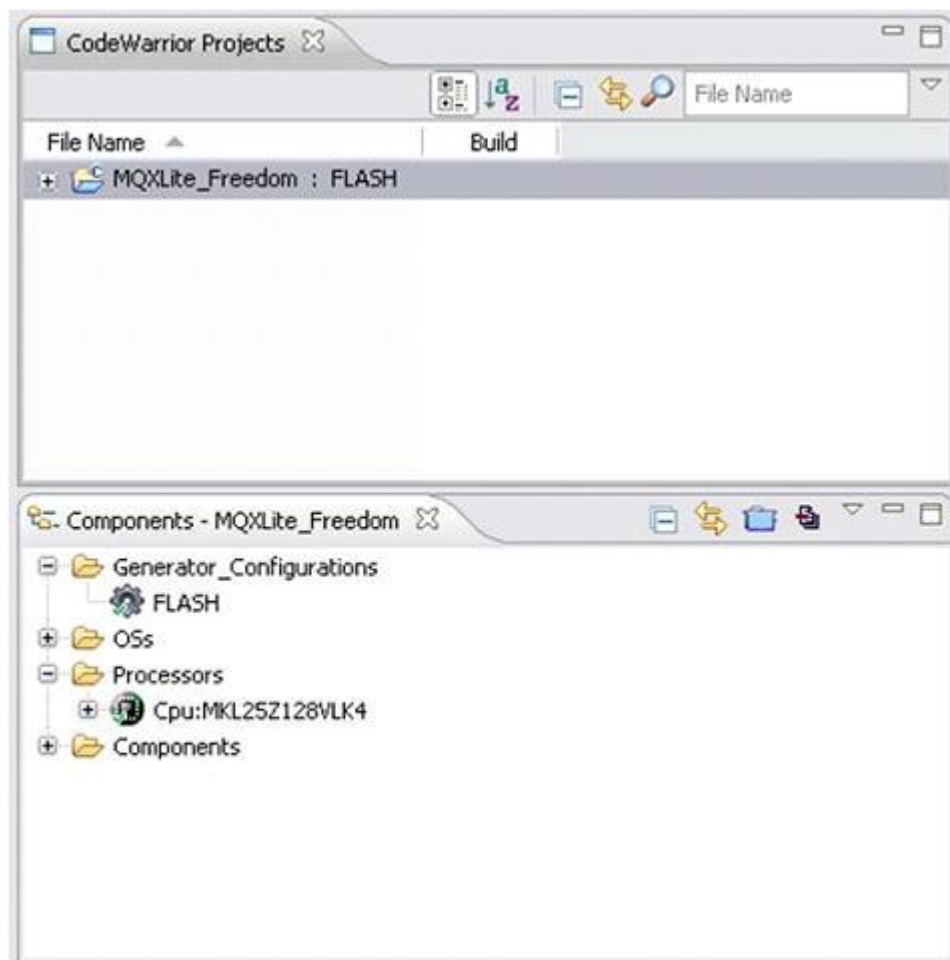

Figure 15. CodeWarrior Projects and Components windows
- When the wizard finishes CodeWarrior has a new appearance. See Figure 15. There are two main changes. The CodeWarrior Projects window has a new project included and the Components window shows the Processor Expert added components.